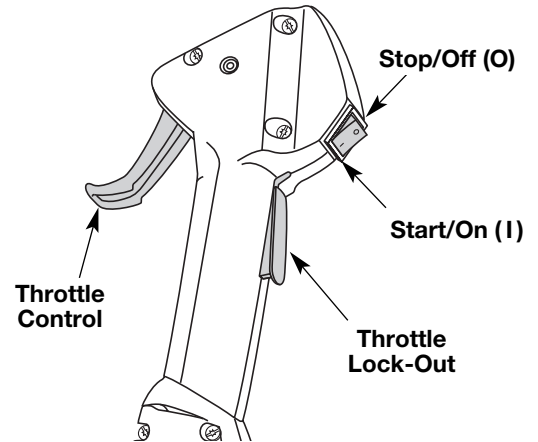

Fig. 15
2. Make sure the On/Off Stop Control is in the ON (I) position (Fig. 15).